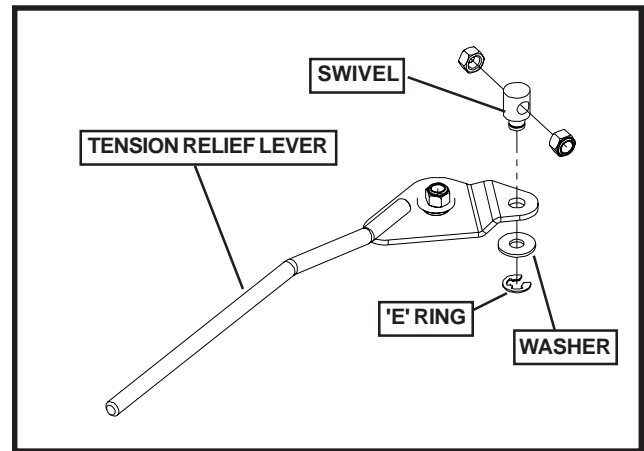

**FIGURE 16**
2. Using a 1/2" deep socket and pliers to hold the rod, remove the outer nut. See Figure 16.